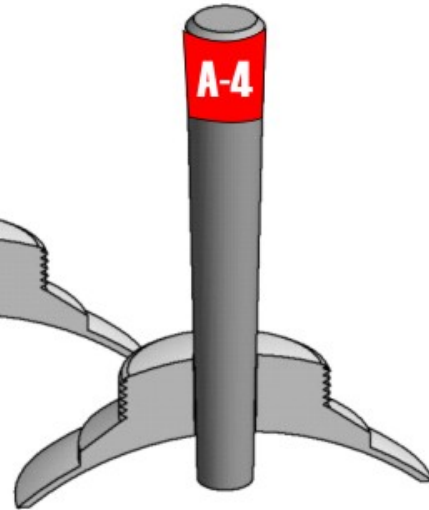

Figure 3.6
3.6 LEAK: VALVE BLOWN OUT (DUE TO STRIPPED THREADS) (FIGURE 3.6)